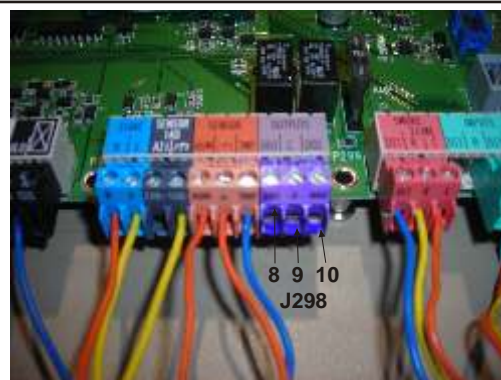

Figure 4
- D. Route wire through the control section down to the IMC2 control board. Strip the wire ends $\frac{3}{8}$ " if they have not been pre-done. Place the Green wire under screw terminal at J298-8 (Purple connector). Do the same routine for Pink at J298-10 and Black to J298-9. **See Figure 4.**